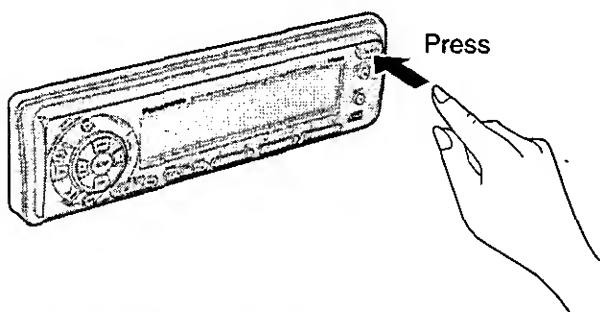

Fig. 1
- ① Switch off the power.
- ② Press the [OPEN]. The removable face plate will be opened. (⇒ Fig. 1)